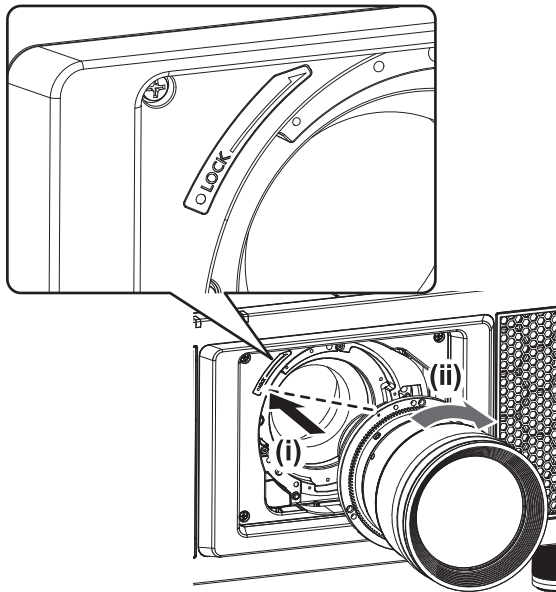

Fig. 1
- 1) **Insert the projection lens by aligning the mark on the projection lens (orange) with the mark on the projector (○ to the left of LOCK) and turn clockwise until it clicks. (Fig. 1)**